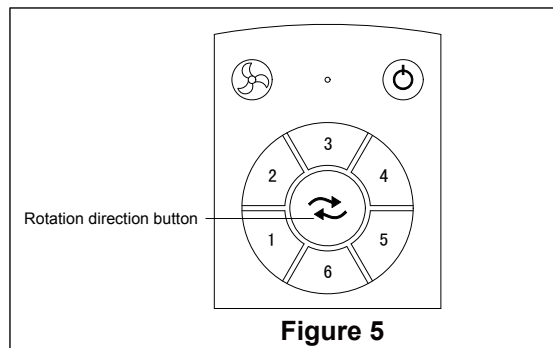

Figure 5
- ☐ If airflow is desired in the opposite direction, Press the F/R button again. (Figure 5)